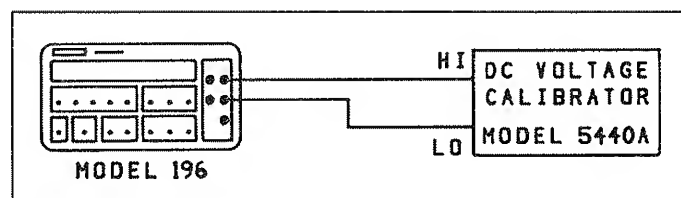

Figure 4-1. Connections for DC Volts Verification
2. Connect the DC voltage calibrator to the Model 196 as shown in Figure 4-1.